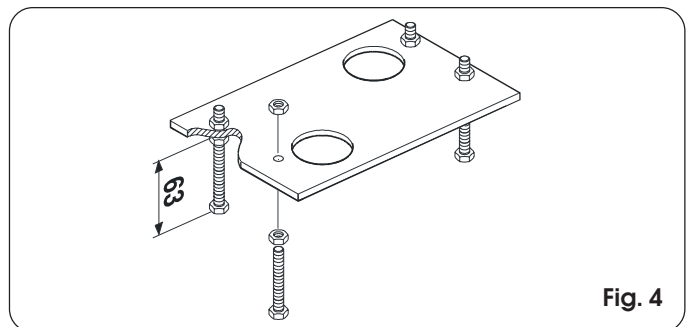

Fig. 4
- 1) Assemble the foundation plate as in Fig.4.